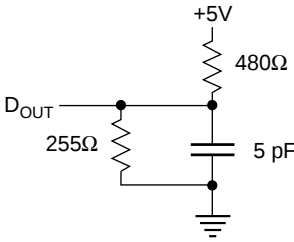

Figure 2. Output Load Equivalent
1. The parameter is tested with $CL = 5$ pF as shown in Figure 2. Transition is measured ± 200 mV from steady state voltage.